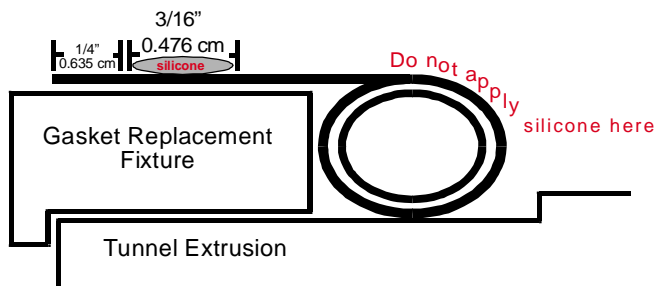

Figure 80: Cut-away View of Side of Gasket and Gasket Replacement Fixture
6. When it is determined that the gasket is properly placed, apply high-temperature silicone to the gasket surface. Beginning at about 0.63 cm (0.25 in.) from the inside edge — not over the rounded part of the gasket — evenly coat an area 0.48 cm (0.1875 in.). Refer to Figure 80. Ensure that excess silicone is not applied, especially near the edges where it might compromise the seal. It is essential to work evenly and quickly, because the silicone sets in about 15 minutes.